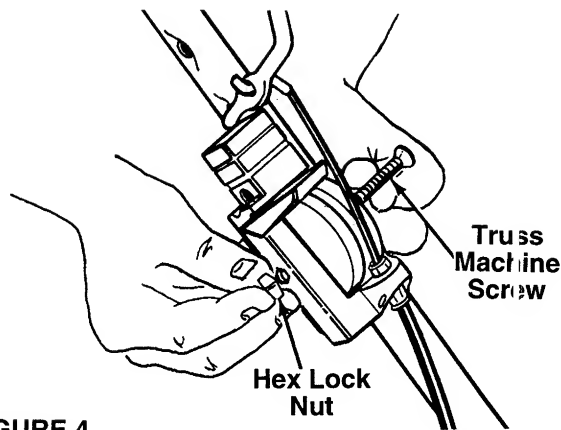

FIGURE 4.
3. Place the control box on the upper handle just below the end of the control handle as shown in figure 4. Secure with hardware removed in step one by placing hex lock nut into the indent on the inside of the control box. Screw the truss machine screw into the hex lock nut.